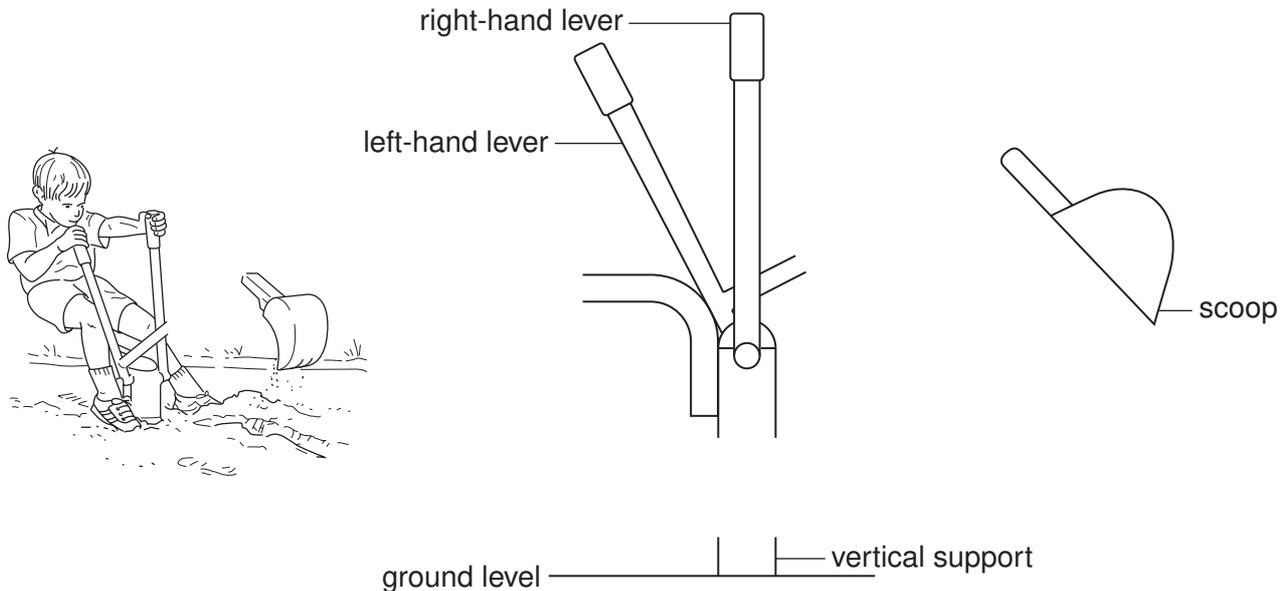

Fig. 10
- 9 Fig. 10 shows an incomplete idea for a child’s mechanical digger to be used in a playground sandpit. Most of the digger is made from metal. The levers enable a child to raise and lower the scoop, fill it with sand and tip the sand out.